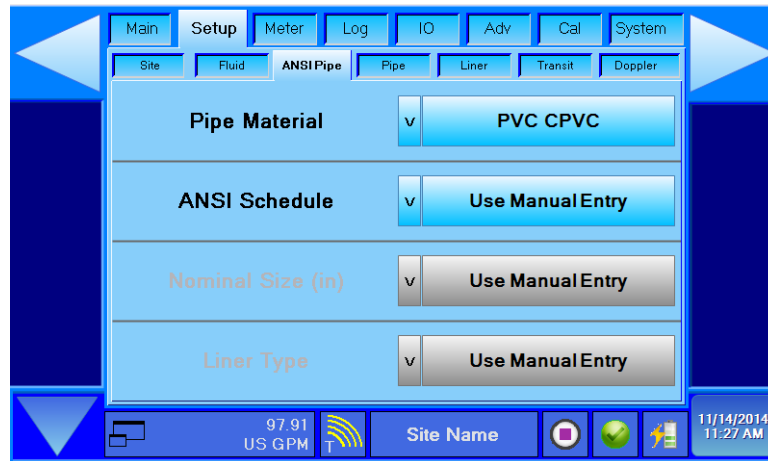

Figure 55: Setup > Pipe US — schedule manual entry selected
1. Make sure *Setup > ANSI Pipe > ANSI Schedule* is set to "Use Manual Entry" as in Figure 55.